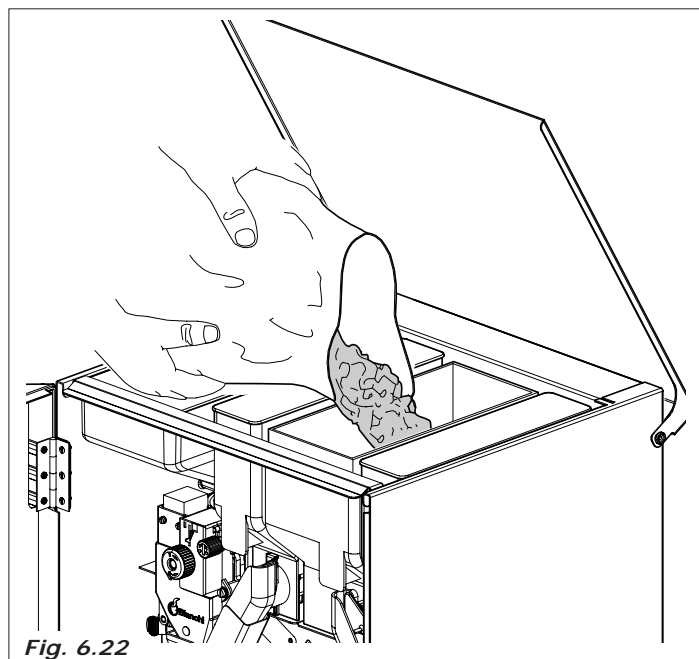
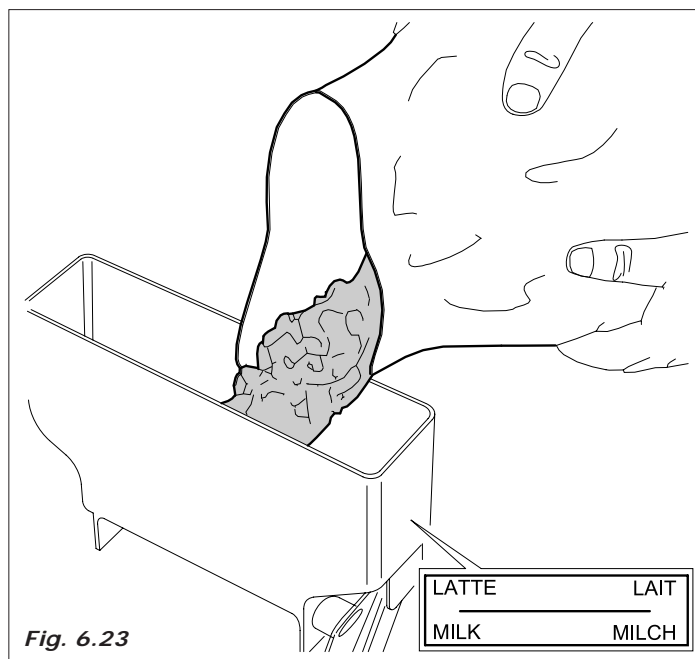

Fig. 6.22
Fig. 6.23
- remove the covers of each container and load the product according to the product indicated on the label (Fig.6.22-Fig.6.23).